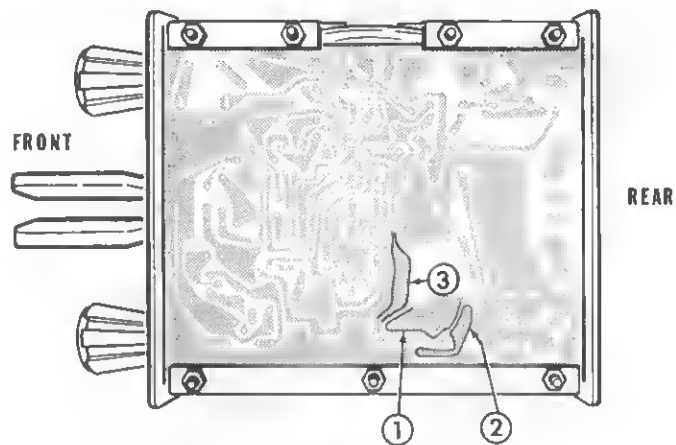

Figure 2
- ( ) Refer to Figure 2 and touch the ohmmeter probe to a solder connection at point 1. The meter reading should be 10 k $\Omega$  or higher.